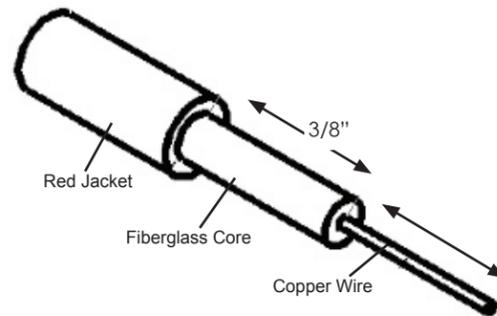

Fig. 1
2. Once jacket is removed, use pipe cutter again to score a mark around fiberglass core approximately 3/8" from edge of jacket. Use sharp knife to carefully strip away 3/8" of fiberglass core closest to rod end to expose copper wire. Be careful not to damage wire. The 3/8" portion of rod closest to jacket will remain intact (Fig.1).